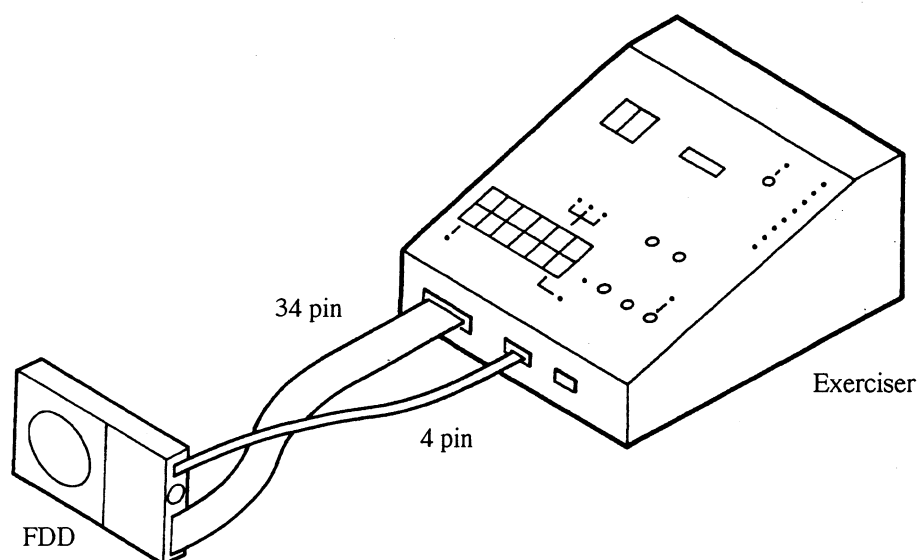

Fig. 2 - 1 FDD and Exerciser Connection
b. Connection with FDD (See Fig. 2 - 1)